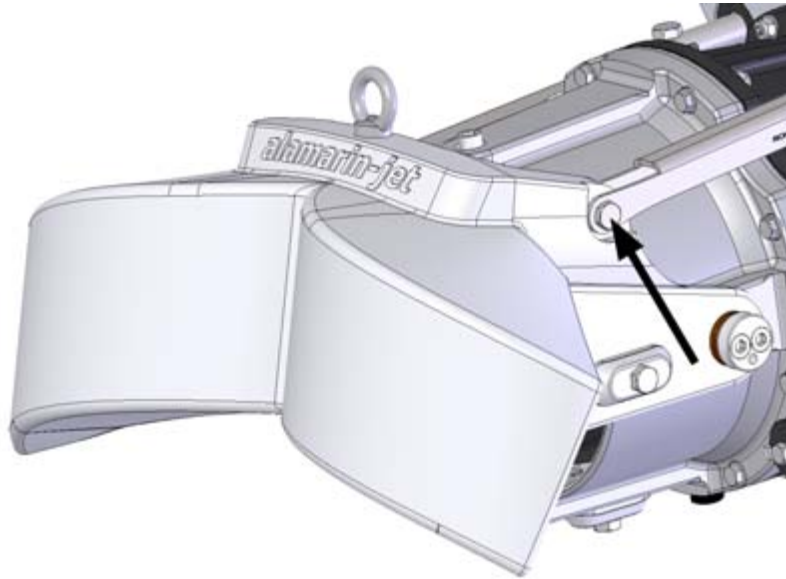

Figure 55. Removing the reversing deflector
1. Open the knee bolt of the connecting rod between the hydraulic cylinder and the reversing deflector (figure 55, point A).
4. Attach the knee bolt of the hydraulic cylinder connecting rod (figure 55, point A).